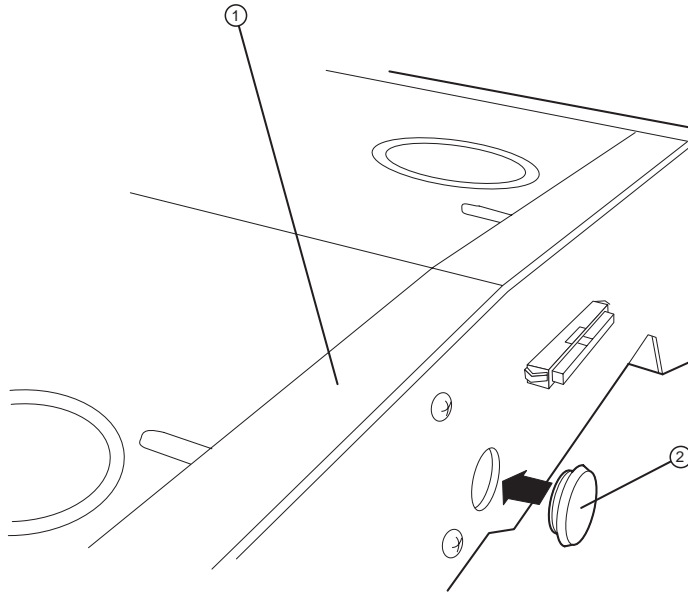

Figure 1-14 Placing the button plugs.
5. Pop in the button plugs at the top of the bridge, left and right side. Refer to Figure 1-14.